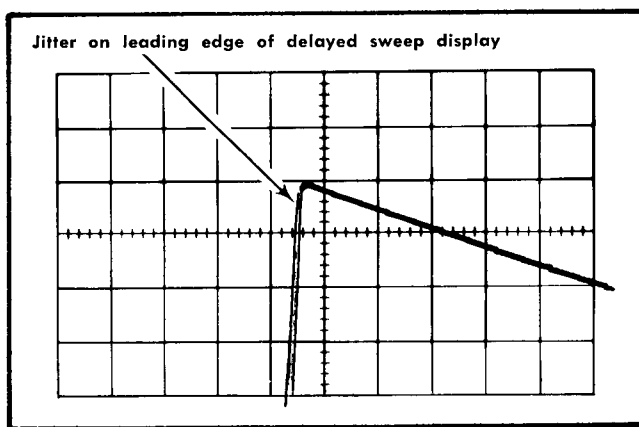

Fig. 5-22. Typical CRT display when checking delay-time jitter.
c. CHECK—Jitter on the leading edge of the pulse should not exceed 0.5 division (1 part in 20,000); see Fig. 5-22. Disregard slow drift.
e. CHECK—Jitter on leading edge of the pulse should not exceed 0.5 division; see Fig. 5-22. Disregard slow drift.